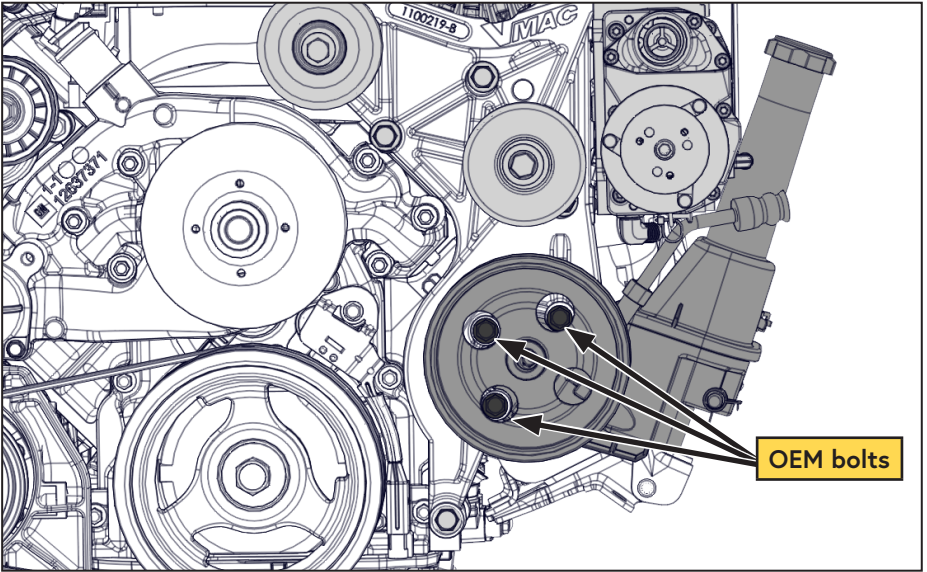

Figure 18 — Power steering pump installation
- Install the power steering pump onto the VMAC bracket using the 3 OEM screws. The fasteners can be accessed through the holes in the pulley (Figure 18).